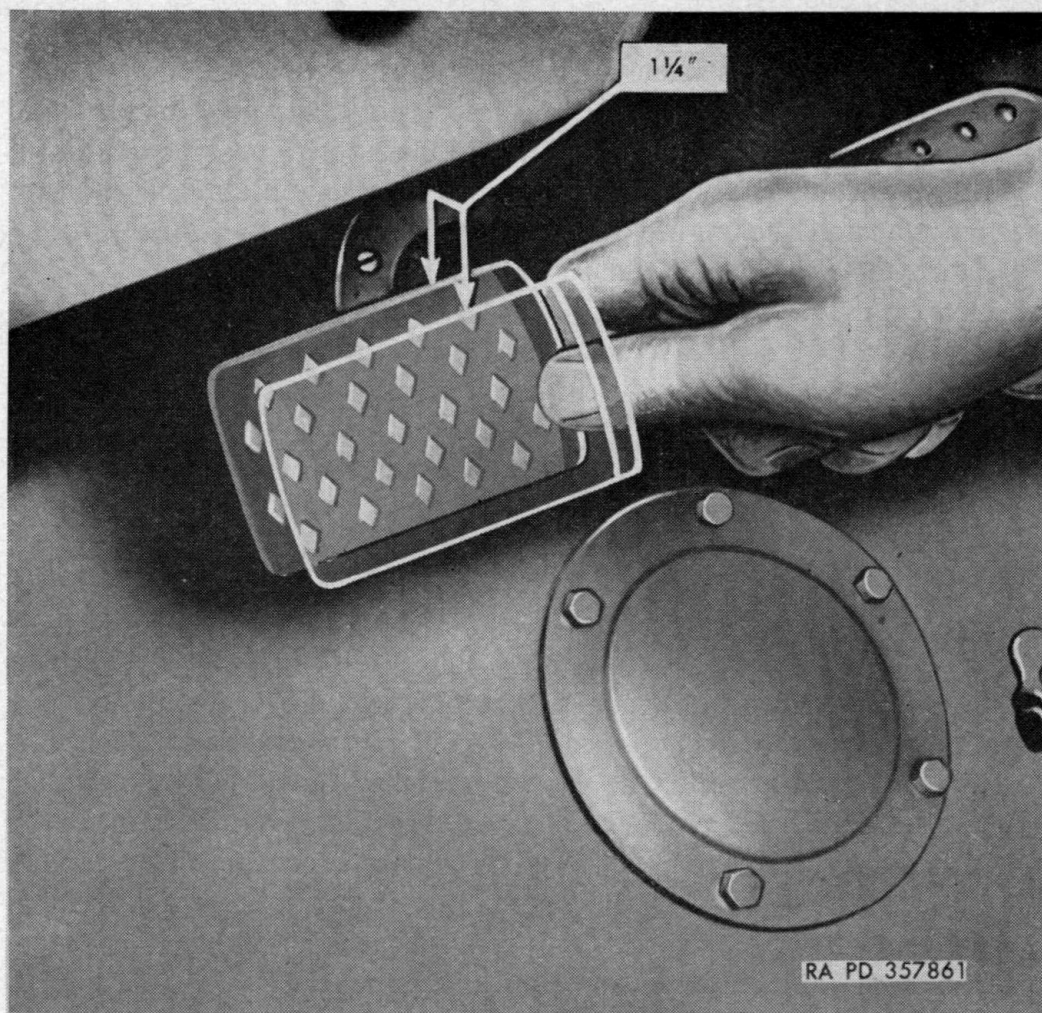

Figure 24. Clutch pedal adjustment.
*a. ADJUSTMENT CHECK.* The clutch pedal must have a free pedal travel of at least 1¼ inch before the clutch starts to disengage (fig. 24).